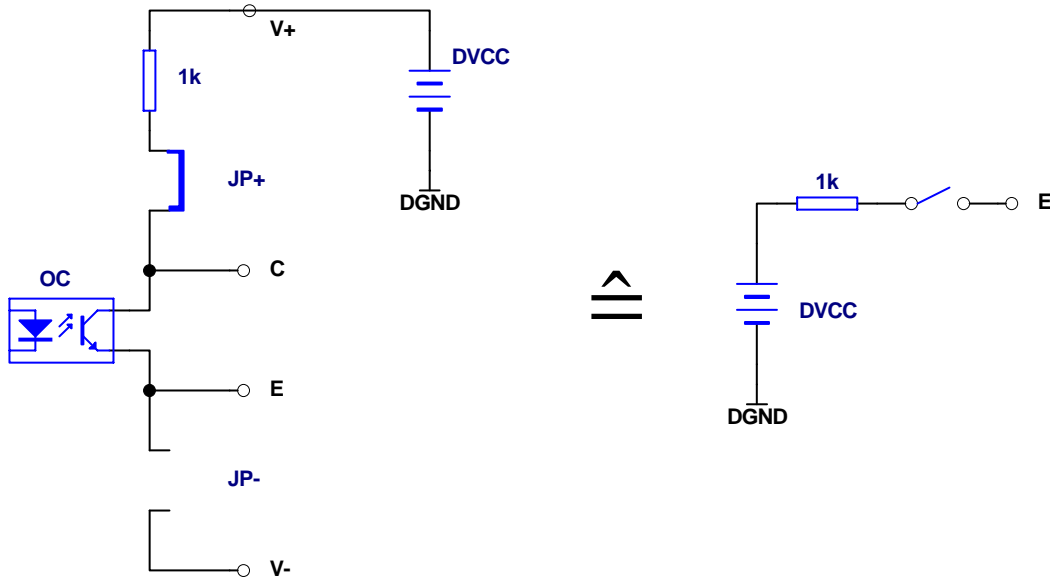

Fig. 4: Jumper JP+ installed, Jumper JP- removed, Terminal V+ powered
When Jumper JP+ is installed instead of JP- and Terminal V+ is connected to some voltage DVCC according to Fig. 4 then a load can be switched via the optocoupler with a series resistance of 1kΩ.
3.2.3 JP+ Installed (see Fig. 4)
| | Fig. 4, Section 3.2.3 |